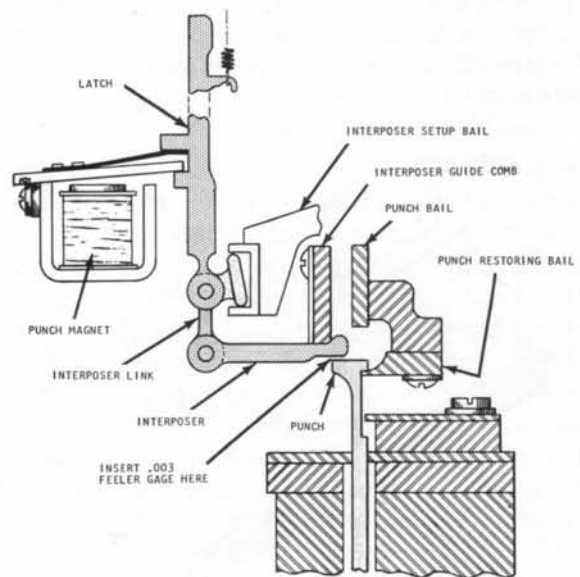

Figure 47. Interposer Guide Comb Adjustment
The interposer bail is a U-shaped channel. A projection on each of the 80 interposer links ride in the channel (Figure 47). As the interposer setup bail moves down, all the interposer links move down, carrying with them the 80 latches. This pulls each armature against its yoke. If punching is to take place, the magnet is energized at this time. Because the armature did not have to be attracted electrically, very low current is required to keep the armature sealed against its yoke. For this reason the unit is sometimes referred to as a "no-work" punch unit.
- b. Check for .003" interposer to punch clearance (Figure 47).
- a. With the punch magnet de-energized, insert a .003" feeler gage between the punch and interposer (Figure 47).